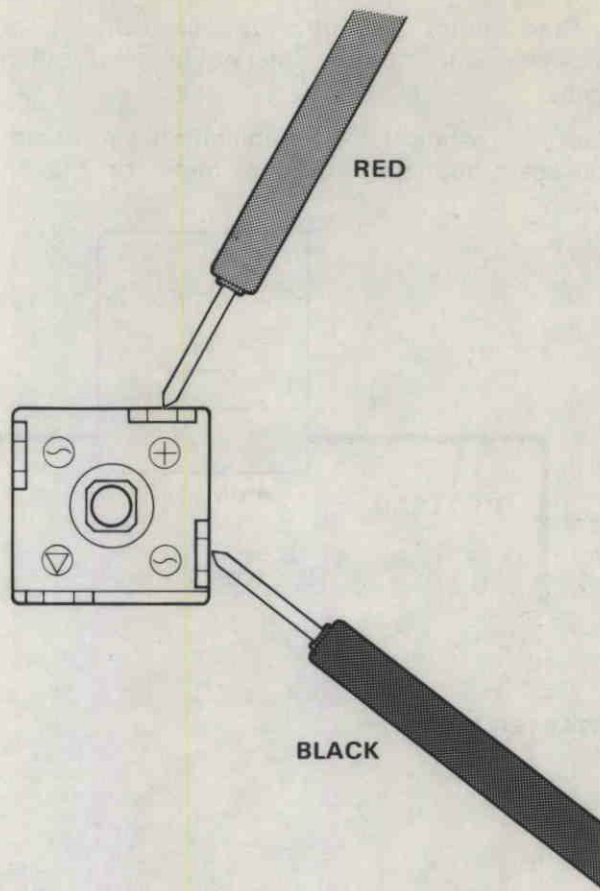

Figure 23. Test #4. Step 5.
5. Move red tester lead to positive (+) terminal, black tester lead to one AC (\sim) terminal. Figure 23.